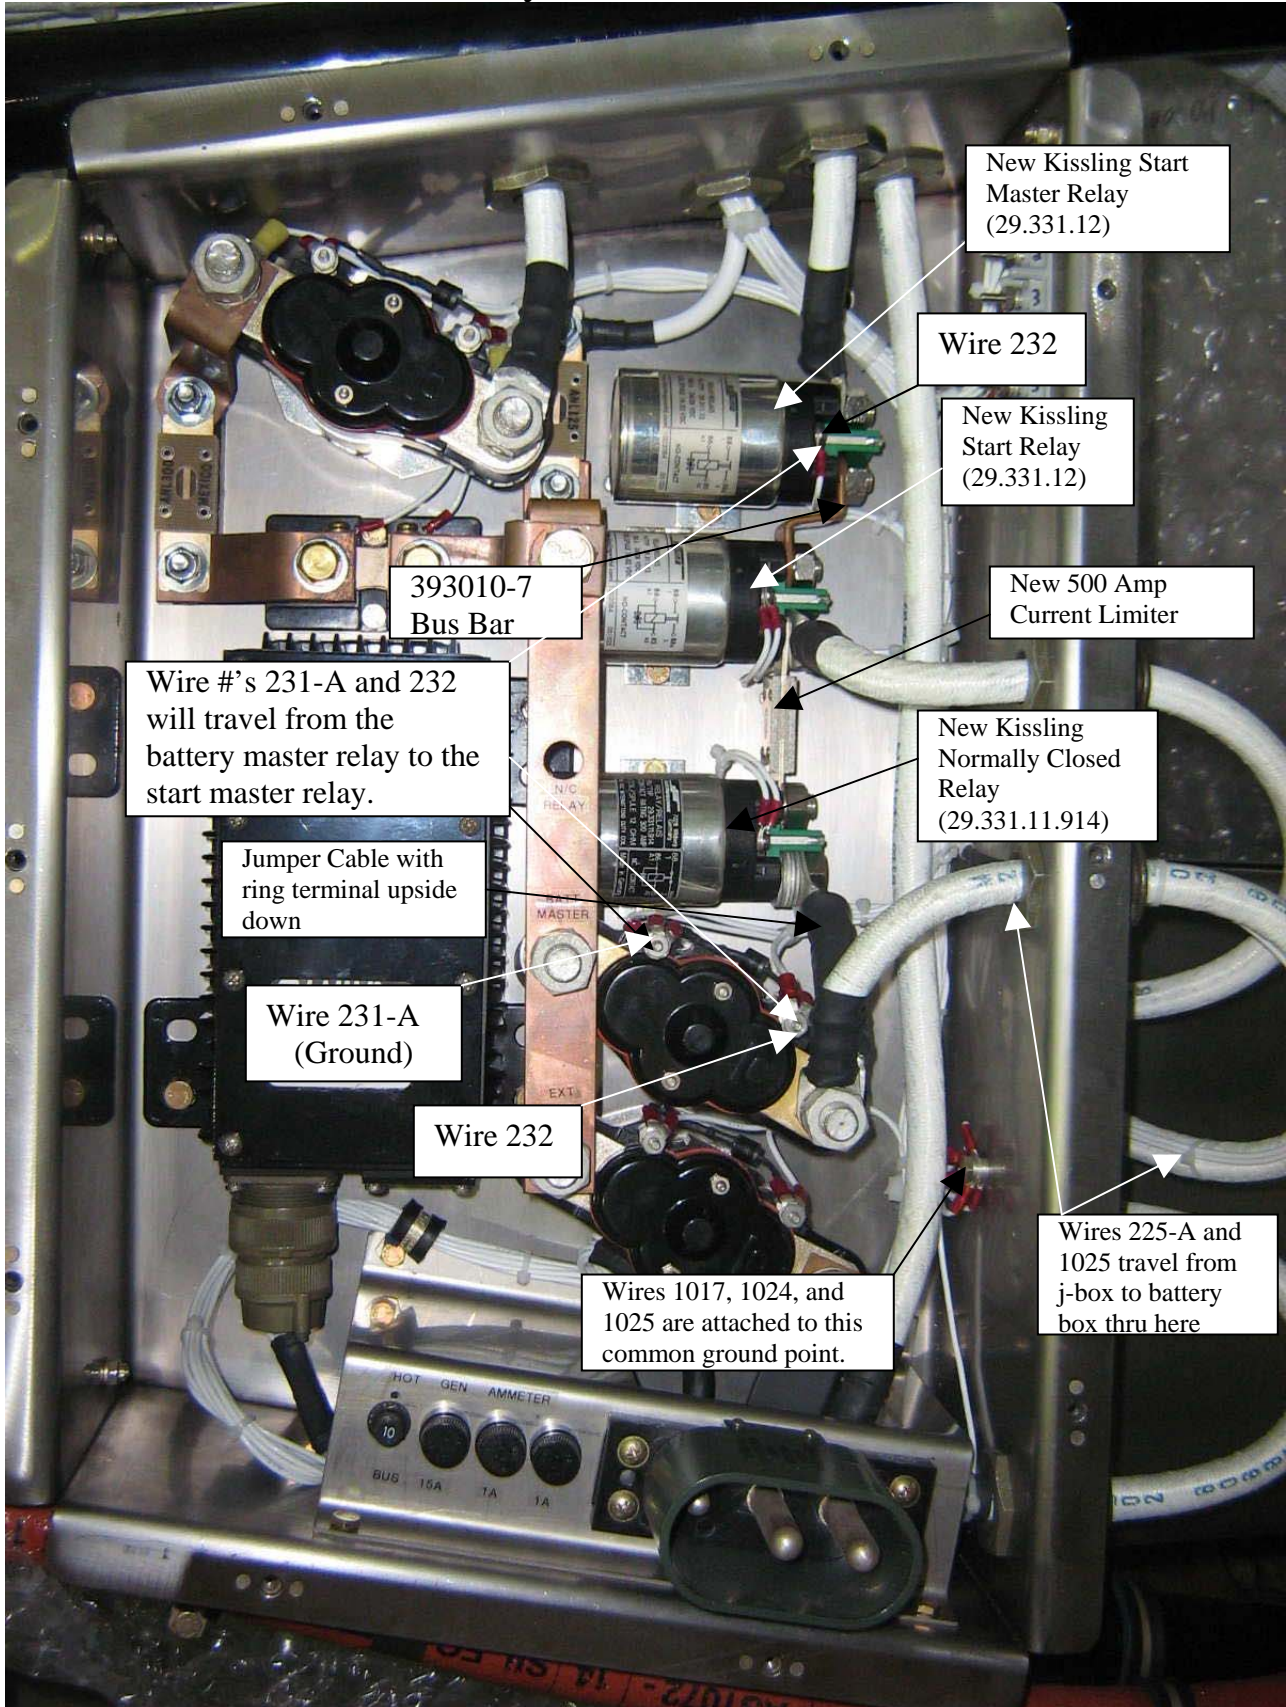

Figure 2
8. Hold the current limiter/relay assembly up to the junction box in the mounting location depicted in the photo (approx. 1/4" from previous horizontal 125 amp current limiter mounting base position) and mark the four holes to mount the relays in the j-box (see figure 2). Drill the four holes in the junction box using a #10 drill. De-burr the holes.
10. Install the relay assembly in the electrical junction box using 4 bolts (AN3-4A), 4 washers (AN960-10), and 4 steel lock nuts (AN363-1032). Then using the 393010-7 Bus bar for alignment, Match drill the start master relay(29.311.12) to J-box , (as depicted in fig. 2) and de-bur.
17. Cut the starter cable to the appropriate length (remove ½” ring terminal) to attach to the (1 or 88) terminal of the new top start relay. Crimp a 3/8” 70-10 ring terminal on the cable and install it on the relay. (see figure 2 for ring terminal clocking)
20. Install a new MS22759/2-02-9 cable from terminal (2 or 88a) on the start relay to the positive terminal on the Elcon connector for battery number 2 (the one further from the j-box) parallel/series transfer relay in the battery box as depicted in figures 2 & 3 using the same holes where the previous cable was removed. Use the 3/8” 70-10 ring terminals on both ends. Note ring terminal clocking prior to crimping terminals and verify that there is adequate length to connect to battery when installed.